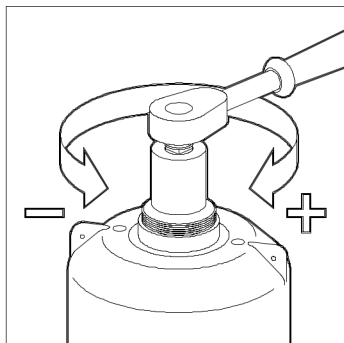

Fig. 6.
- 5) For 100mm unit connect suitable spanner (27mm A/F) to hexagon of spring adjusting nut. See Fig. 6.